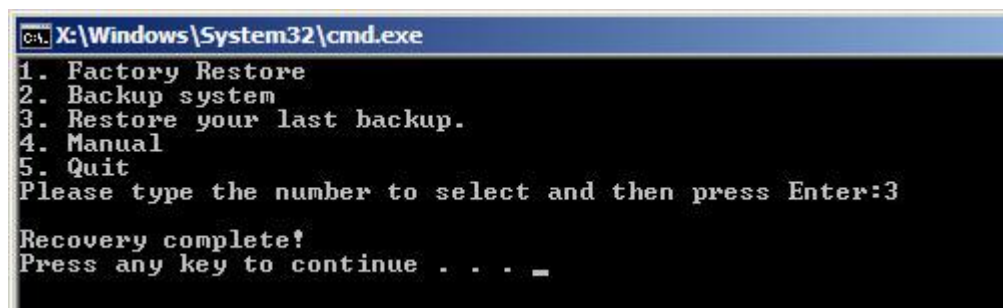

Figure C-32: Restore System Backup Complete Window
Step 3: The screen is shown as in **Figure C-32** when backup recovery is completed. Press any key to reboot the system.